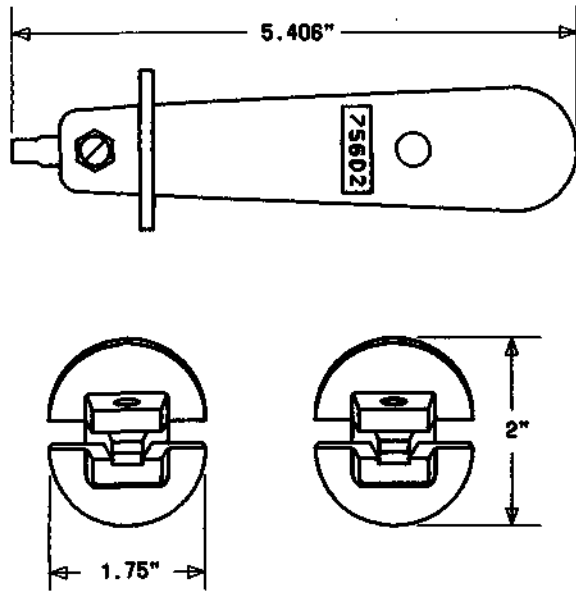

Fig. 5—756D2 Inserter Tool
2.05 756D2: The 756D2 inserter tool (Fig. 5) consists of a plastic handle, an insulated blade, and associated hardware. The tool is used in seating 22 American Wire Gauge (AWG) Irradiated Polyvinyl Chloride (IPVC) wire in both single slip terminals and in quick connect terminals welded assemblies in 78A and 78B connecting blocks on the ESS[†] switching equipment.